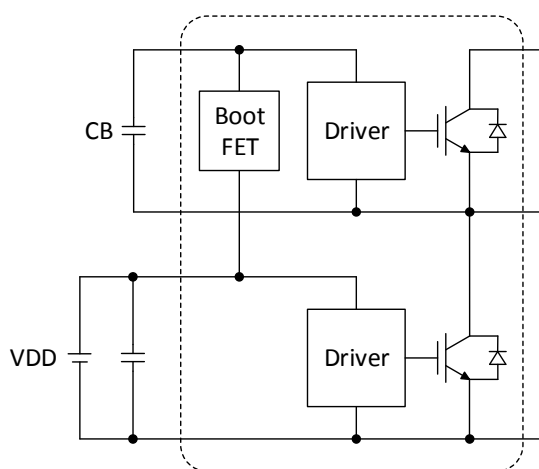

Figure 19. Bootstrap Circuit
VBU, VBV VBW	The VBx pins are internally connected to the positive supply of the high-side drivers. The supply needs to be floating and electrically isolated. The boot-strap circuit shown in Figure 19 forms this power supply individually for every phase. Due to integrated boot FET only an external boot capacitor (CB) is required.